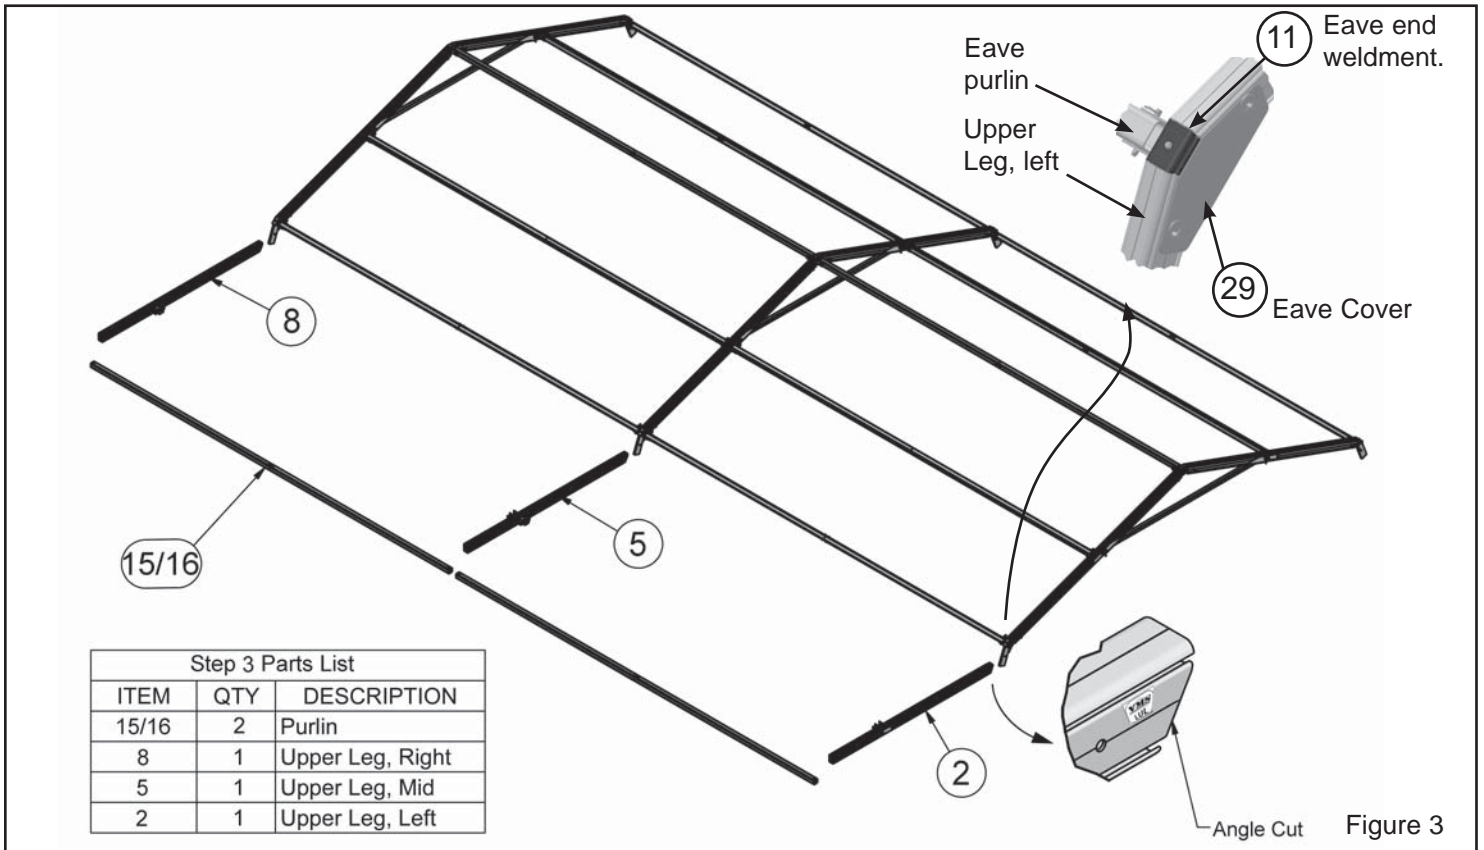

Figure 3
STEP 3 - Add Upper Legs to one Side. See Figure 3.
- Lay out the parts as shown. Three (3) upper legs and two (2) purlins.
STEP 4 - Add Upper Legs to the other Side. See Figure 3.